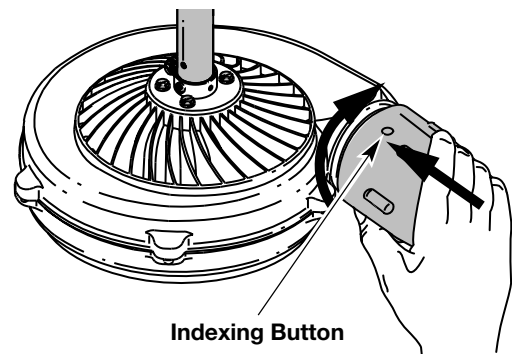

Fig. 7
2. Push the nozzle onto the housing and turn the nozzle clockwise until it locks (Fig. 7).